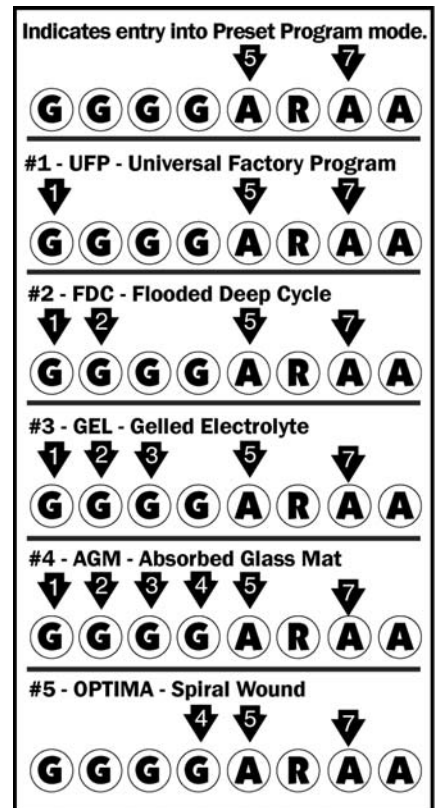

Figure 13 - Indicates preset program adjustment for specific battery types.
3. The red LED will stop flashing and the #7 amber light will illuminate shortly thereafter to indicate the battery preset program mode is engaged (Figure 13).
4. As you continue to hold, the green lights on the left half of the LED display will be illuminated one-by-one to indicate battery type. The first green LED on the left will indicate Program 1 (Universal Factory Program). As you continue to hold the magnet to the switch, the display will cycle to the first two green LEDs (indicating Program 2 - Deep Cycle), three green LEDs (indicating Program 3 - Gel), four green LEDs (indicating Program 4 - AGM), or a single green LED closest to amber LED (indicating Program 5 - Optima). See **Figure 13** at right.